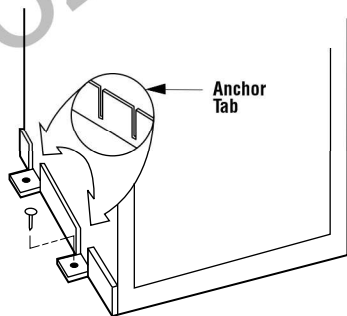

Figure 10
Step 4. Fireplace may be anchored to floor. Bend down four (4) anchor tabs located at the base of the fireplace and secure to the floor by nailing with 8d nails (*Figure 10*).